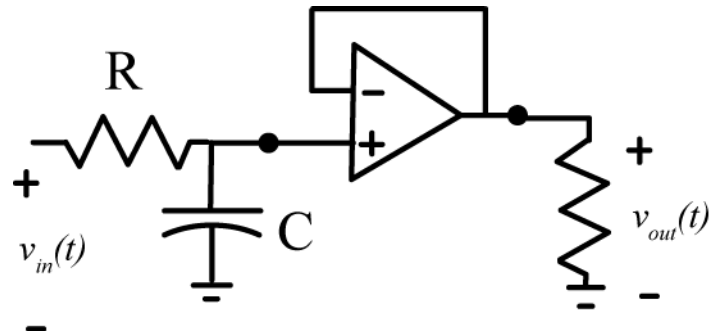
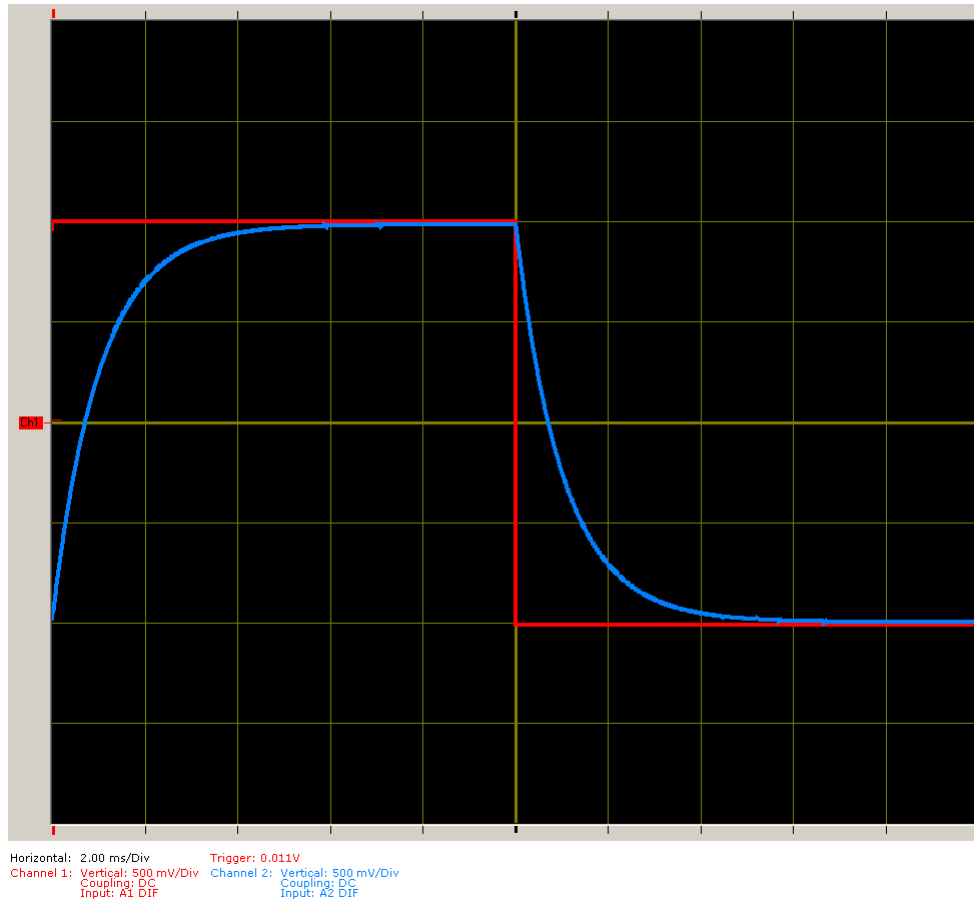

Figure 6. The system we are trying to control, or the plant. There is an isolating amplifier after the plant to avoid loading effects.
Figure 7. Open loop response of the plant. The output is measured across the load resistor connected to the isolating amplifier.
- 6) Build the system, or plant, shown in Figure 6. In this figure we have included a load resistor to measure the output of the isolation amplifier. *Note that the positive terminal is not connected to ground in this circuit!* Measure the output as the voltage across the capacitor. This is the response the system for an open loop configuration. You should get a response something like that shown in Figure 7. Do not disconnect the load resistor yet.
7) Connect all of the subsystems together, but do not connect the feedback loop. Your output should be very nearly the same as in Figure 7.